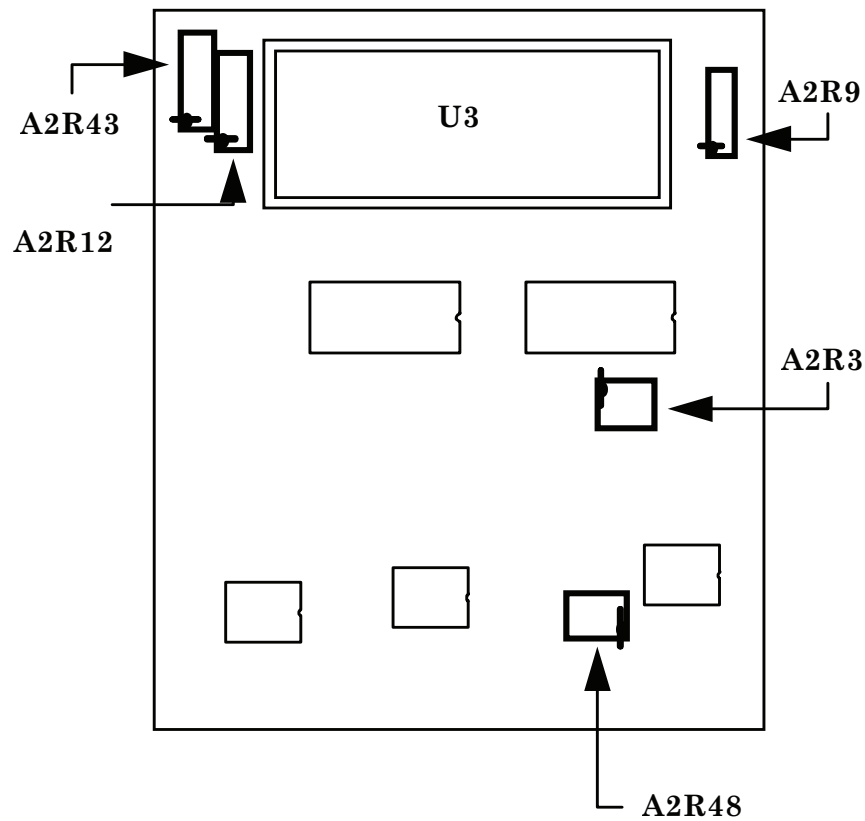

Figure 1. Measurement and display printed circuit board.
c. Pull **PULL ON** pushbutton to (on). Ensure TI display has clear crisp resolution, if not adjust A2R12 (fig. 1) for best clarity and resolution.
All adjustments are made on measurement and display printed circuit board (fig. 1).
(1) Connect multimeter **HI** to U3 pin 34 and **LO** to pin 21, adjust A2R9 (fig. 1) for multimeter indication of 1.000 V dc and then disconnect multimeter (R).
(2) Adjust A2R43 (fig. 1) for a TI indication equal to recorded value in **a (7)** above  $\pm 0.01$  dBm (R).
(3) Adjust A2R3 (fig. 1) for a TI indication equal to recorded value in **a (12)** above  $\pm 0.01$  dBm (R).
(4) Repeat **a (5)** through (14) above as necessary until within tolerance conditions are met.
(1) Perform **a** (1) through (4) above.
(2) Adjust A2R48 (fig. 1) for TI indication between -20.01 and -19.99 (R).